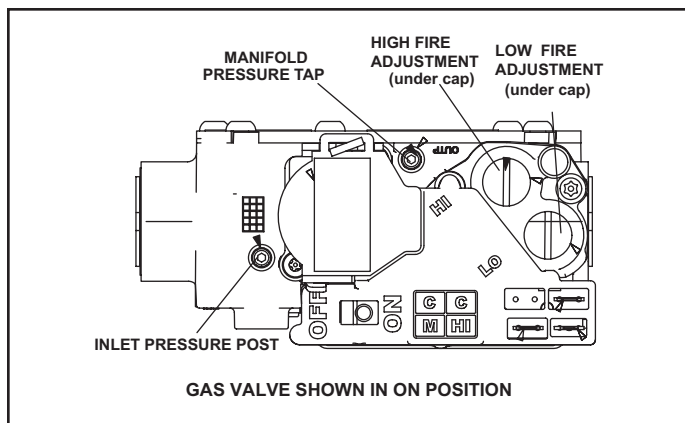
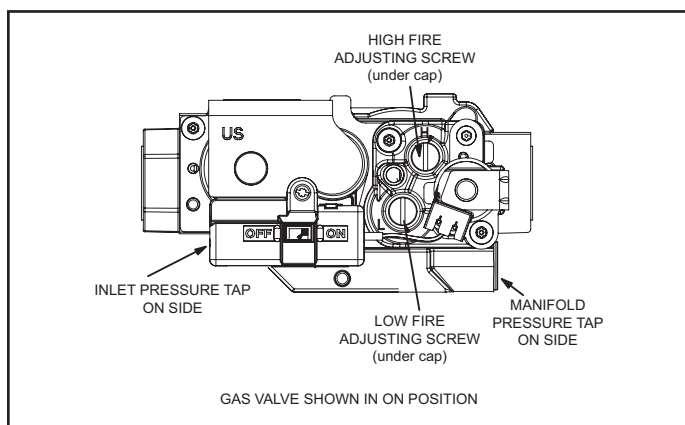

Figure 37. White Rodgers Gas Valve
Figure 38. Resideo Two-Stage Gas Valve
See Figure 37 or Figure 38
6. Move switch on gas valve to OFF. Do not force. See Figure 37 or Figure 38.
8. Move switch on gas valve to ON. Do not force. See Figure 37 or Figure 38.
An inlet post located on the gas valve provides access to the supply pressure. See Figure 37 or Figure 38. Back out the 3/32" hex screw one turn, connect a piece of 5/16" tubing and connect to a manometer to measure supply pressure. See Table 19 for supply line pressure.
A manifold pressure tap located on the gas valve provides access to the manifold pressure. See Figure 37 or Figure 38. Back out the 3/32" hex screw one turn, connect a piece of 5/16" tubing and connect to a manometer to measure manifold pressure.
1. Connect test gauge to manifold pressure tap (Figure 37 or Figure 38) gas valve.
4. If necessary, make adjustments. Figure 37 and Figure 38 show location of high fire and low fire adjustment screw.